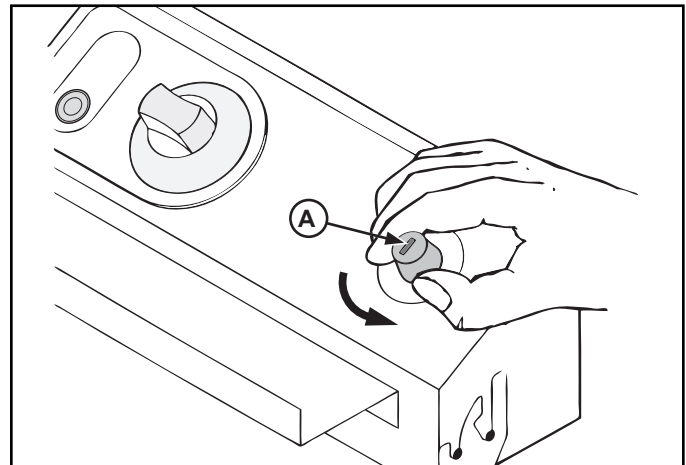

Figure 3. Switch Cover Removal.
2. Remove the switch cover (A) by unscrewing the cover counterclockwise. See Figure 3.